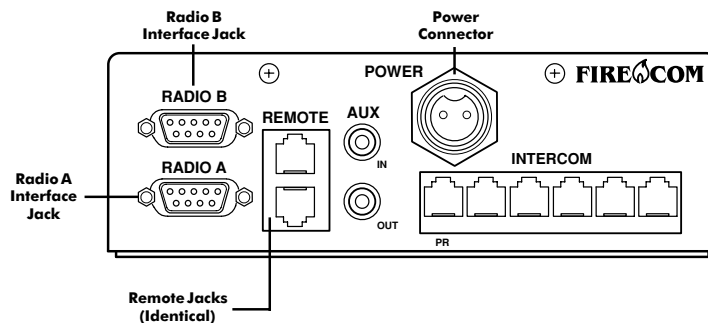

FIGURE 16:
24. Plug the 9-Pin plug on the end of the MR-0X Mobile Radio Interface Cable into the desired Radio Interface Jack on the rear of the intercom (Figure 16).